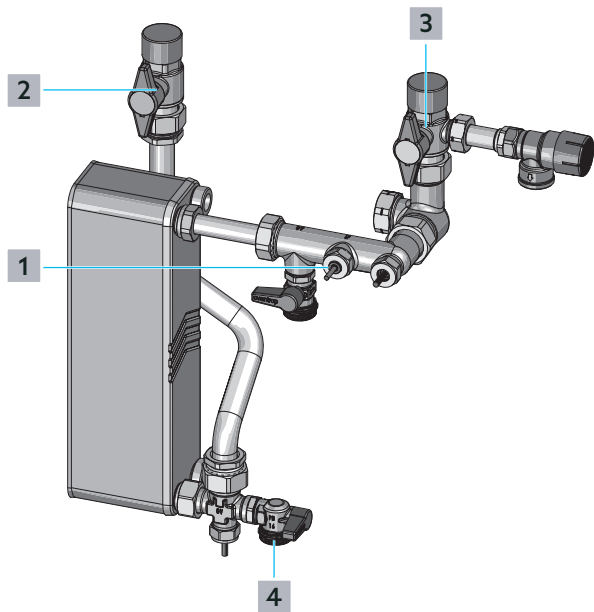

Fig. 4: Potable water circuit
- 3 Slowly close the isolating ball valve for potable water (hot) (position **2** in Fig. 4 on page 7).
- 4 Slowly close the isolating ball valve for potable water (cold) (position **3** in Fig. 4 on page 7).
- 5 Unscrew the cap of the fill and drain ball valve for potable water (cold) (position **4** in Fig. 4 on page 7).
- 6 Connect the drain hose to the fill and drain ball valve for potable water (cold) (position **4** in Fig. 4 on page 7).
- 7 Open the fill and drain ball valve for potable water (cold) (position **4** in Fig. 4 on page 7).